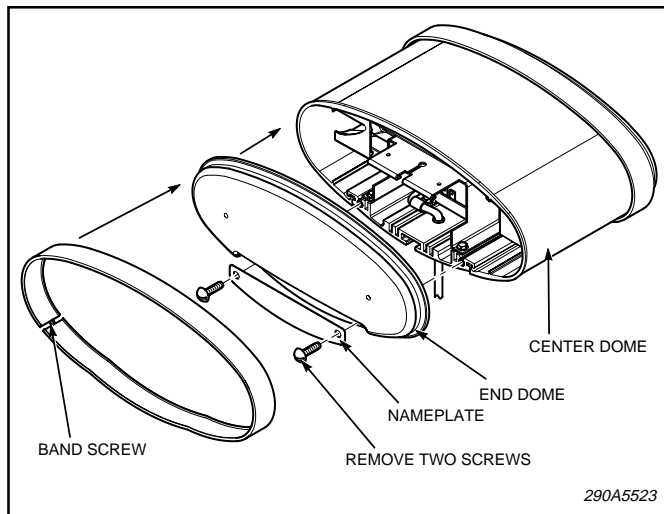

Figure 3.
1. See figure 3. Release the retaining band by loosening the screw on the band. Slide the retaining band off the light assembly.
2. See figure 3. Remove the two screws located at the Identification Plate of the dome. Retain screws, Identification Plate, and end dome assembly.